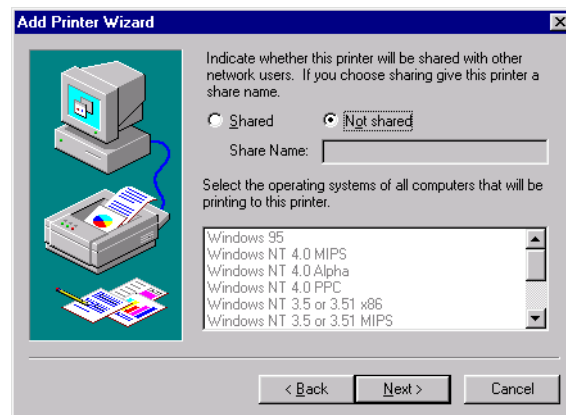

Figure B-13: Sharing the Printer
7. Indicate if the printer will be shared over the network (Figure B-13).